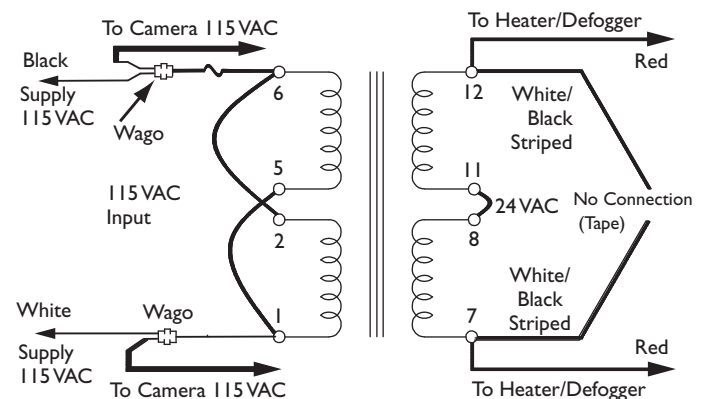

Figure 3 HS9384-6HP Transformer Wired for 115 Volt Camera
1. Installing a 115 volt camera into the HS9384-6HP housing requires inserting both the field supply wires (115 VAC) and a section of hook-up wire (not included, minimum 20 AWG wire) into the unused side of the Wago connectors (provided), then connecting the other end of the hook-up wire to the camera's 110 VAC input. Repeat for pins 1 and 6 (see **Figure 3**).
2. The secondary flying leads (white/black striped) will not be used in this application and should be taped to prevent shorting. See wiring diagram **Figure 3** for clarification.